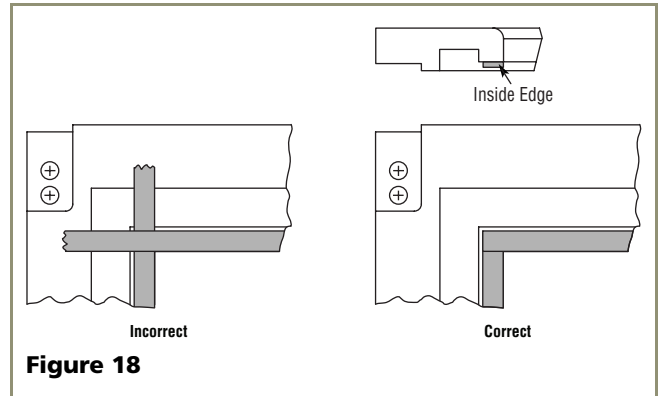

Figure 18
2. Remove the adhesive protection strip from one piece of the foam tape and align to the edge of the overlay frame as shown in **Figure 18**, adhering the foam tape to the overlay frame.